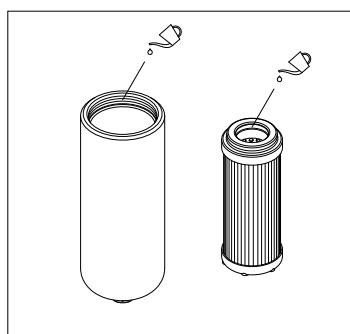

fig. 14
- (Fig. 14) Lubricate with the operating fluid the thread of the bowl and the filter element O-ring